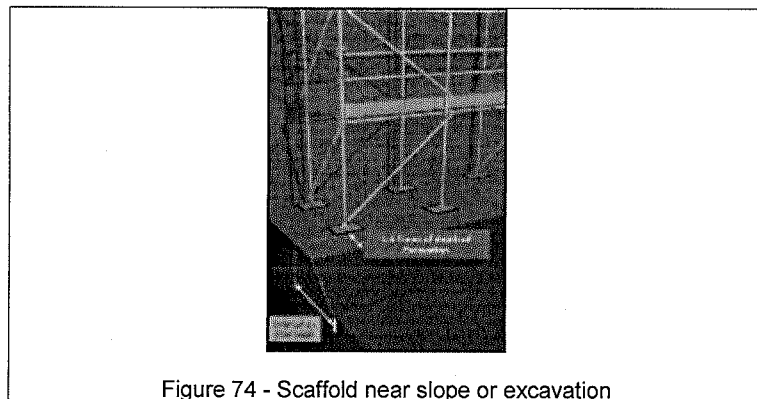

Figure 74 - Scaffold near slope or excavation
- Screw jack shall be used to compensate the ground variations. Such screw jack shall not be extended 2/3 of its total threaded length. (As shown in figure 74)